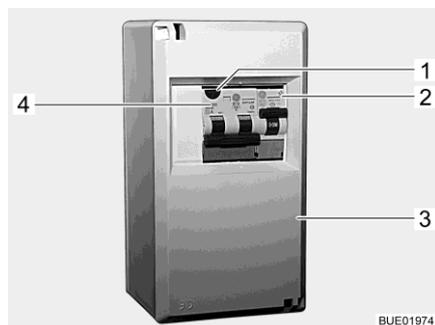
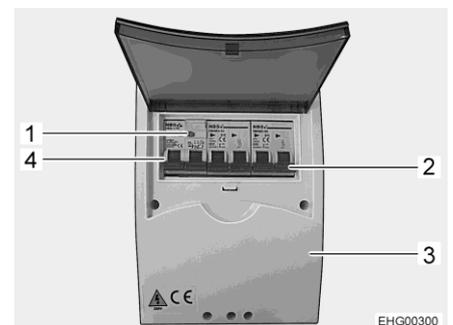

Fig. 206 230 V fuse box
Fig. 207 230 V fuse box (variant)
A combined fault current protection switch / safety cut-out (Fig. 206,4 or Fig. 207,4) in the fuse box (Fig. 206,3 or Fig. 207,3) protects the complete vehicle from fault current (0.03 A).
For vehicles with special equipment (e.g. air conditioning unit) an additional safety cut-out (10 A) (Fig. 206,2 or Fig. 207,2) secures the device.
■ When the vehicle is connected to the 230 V power supply, press the test button (Fig. 206,1 or Fig. 207,1). The fault current protection switch must trip.